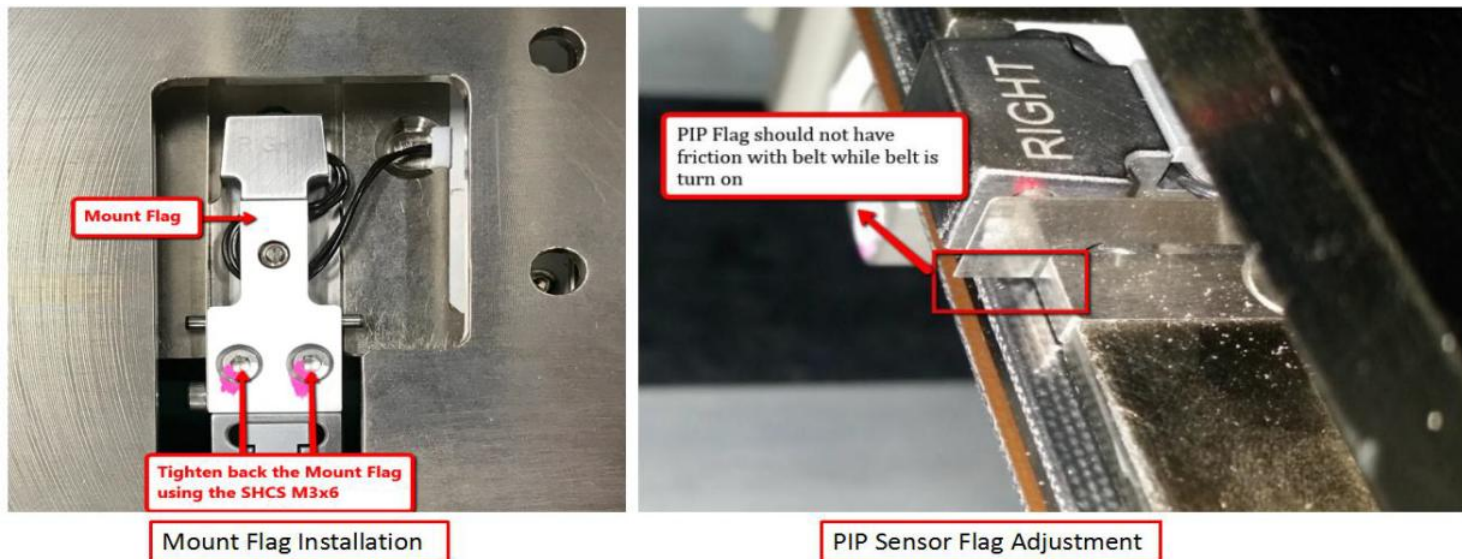

Figure 8 PIP flag assembly & adjustment
7. Tighten SHCS M3x6 (2x) & Visual check PIP flag condition as Figure 8.